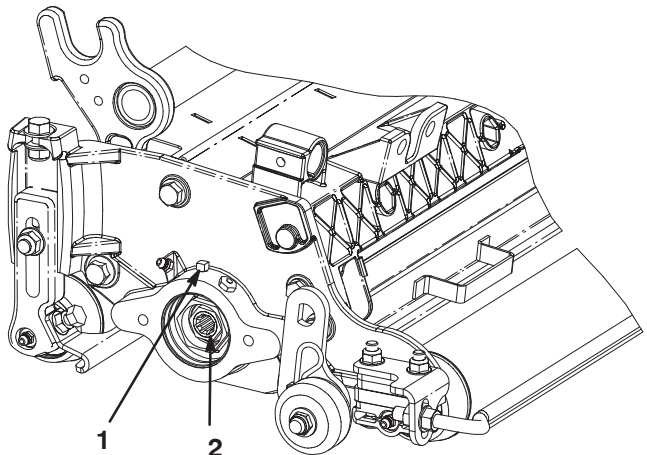

Figure 10
A. Loosen external set screw securing bearing adjusting nut to bearing housing located on the left side of the cutting unit (Fig. 10).